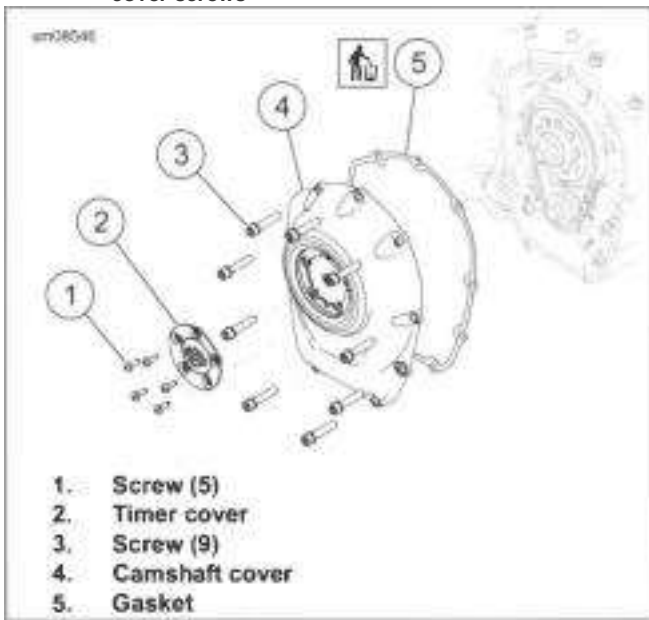
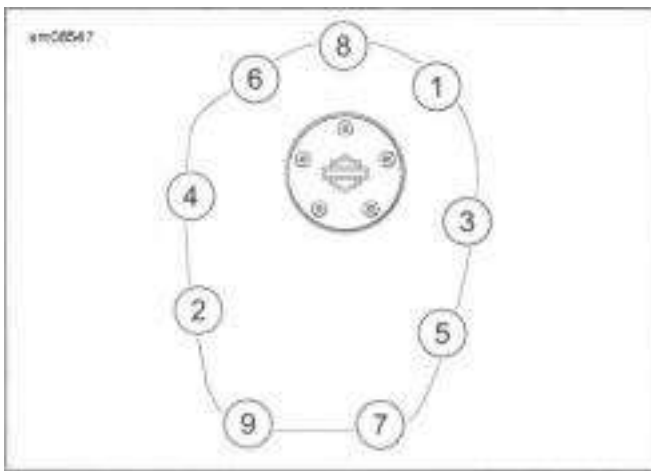

Figure 4-49. Camshaft Cover
Figure 4-50. Cam Cover Tightening Sequence
1. See Figure 4-49. Remove camshaft cover.
- a. Remove screws (3).
- b. Remove camshaft cover (4).
- c. Discard gasket (5).
1. See Figure 4-49. Install camshaft cover.
- a. Install new gasket (5).
- b. Install camshaft cover (4).
- c. Install screws (3). Hand tighten.
- d. See Figure 4-50. Tighten screws in the sequence shown.
2. See Figure 4-49. Install timer cover, if removed.
- a. Install timer cover (2).
- b. Install screws (1). Tighten.